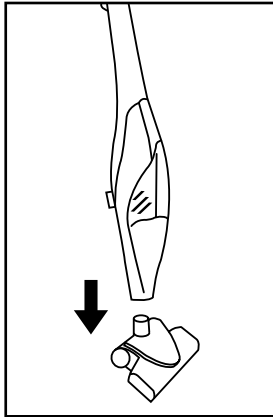

Fig. 2
2. Attach the power nozzle into the air intake of the main body making sure contacts between the nozzle and body are aligned and inserted completely. (Fig. 2)